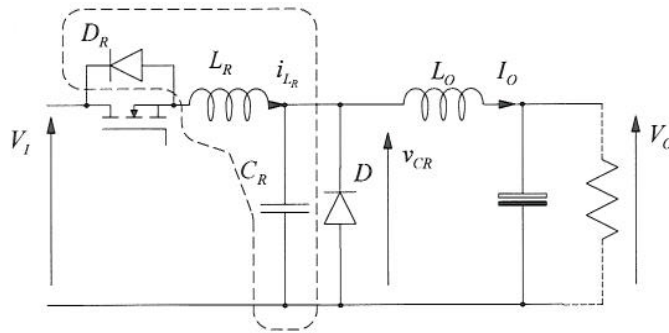
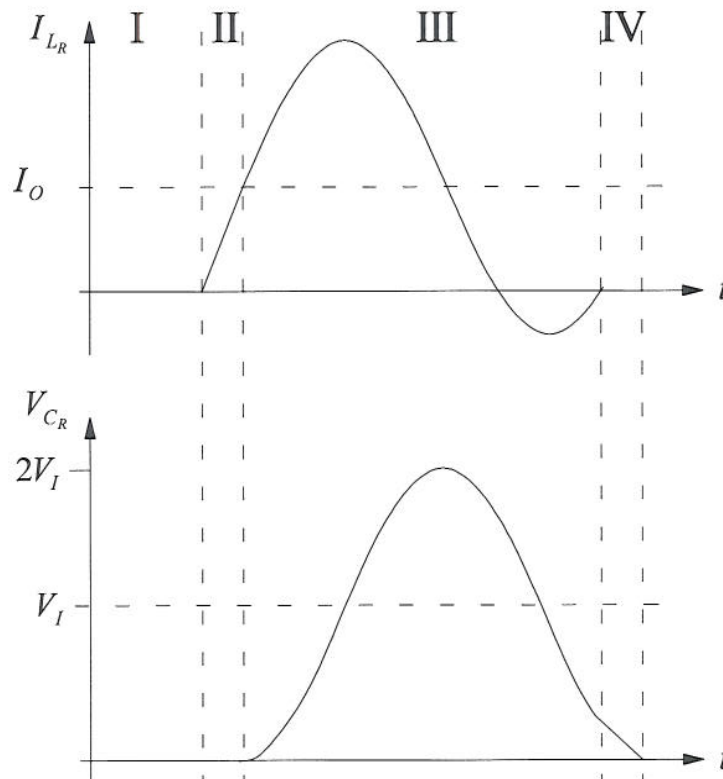

Figure 4.1 A zero-current switched quasi-resonant circuit
Figure 4.2 The four periods of operations of a zero-current switched quasi-resonant circuit
- (b) Figure 4.1 shows a zero-current switched quasi-resonant circuit and figure 4.2 shows the four periods of operation defined by the capacitor voltage and inductor current of the resonant circuit. Describe the circuit action in each of the four periods. [6]